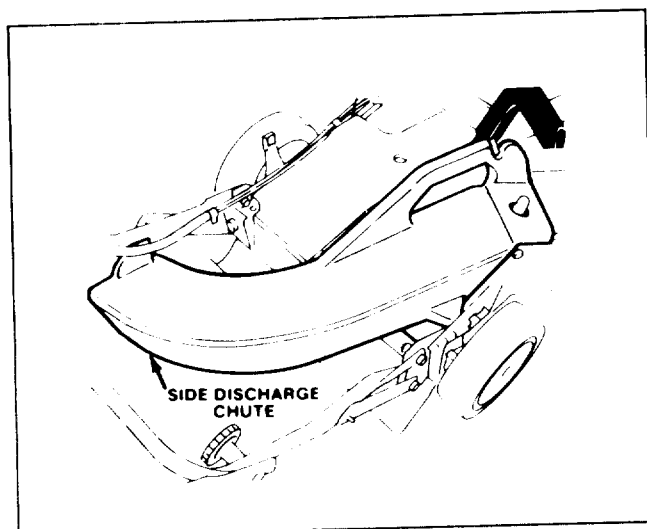

Figure 35
1. **Side Discharge Kit, Model No. 59168**—Installs in seconds. Rear mounted in place of the grass bag or discharge tunnel plug. Disperses clippings while trimming on both sides (Fig. 35).